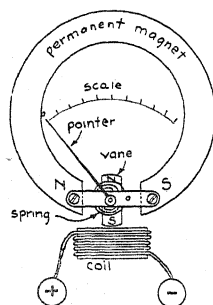

FIG. 93. The moving-vane ammeter.
In the vane-type instrument shown in Figure 93, the coil carries the current to be measured (amperes). This current causes a flux, which distorts the flux in the gap, angling it around a little. The vane, also being magnetized, adjusts to the new flux, thus moving the pointer over the scale.
97. The Construction of a Voltmeter. Voltmeters are similar to ammeters. The only great difference between the two is in the kind of coil windings. Ammeters have a few turns of large wire on the coil; voltmeters have many turns of fine wire on the coil. Otherwise, their details and types are quite alike. The views in Figures 93 and 94 also would serve to show how "vane-type" and "coil-type" voltmeters look.